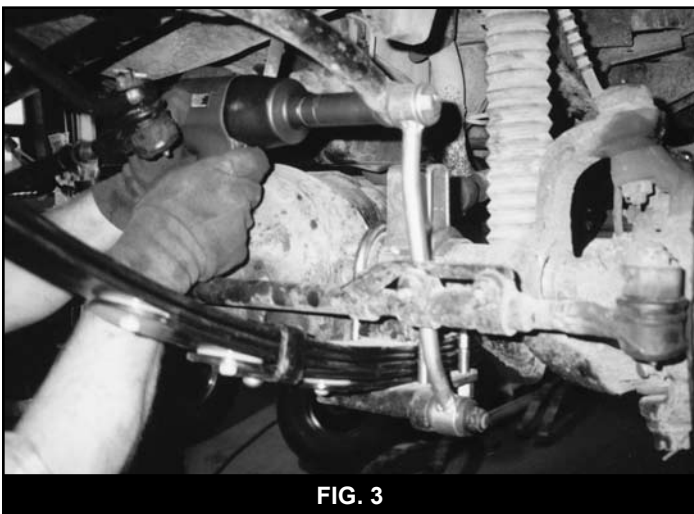

FIG. 3
14. Remove front jack stands and lower vehicle to ground. Reattach OE anti-sway bar links when installing BDS #004200 -2" springs. Install new links and bushings (included in box kit #014350). (Fig. 3) Insert mount pins in the new links and install; torque to spec. Torque to 65 ft.lbs.